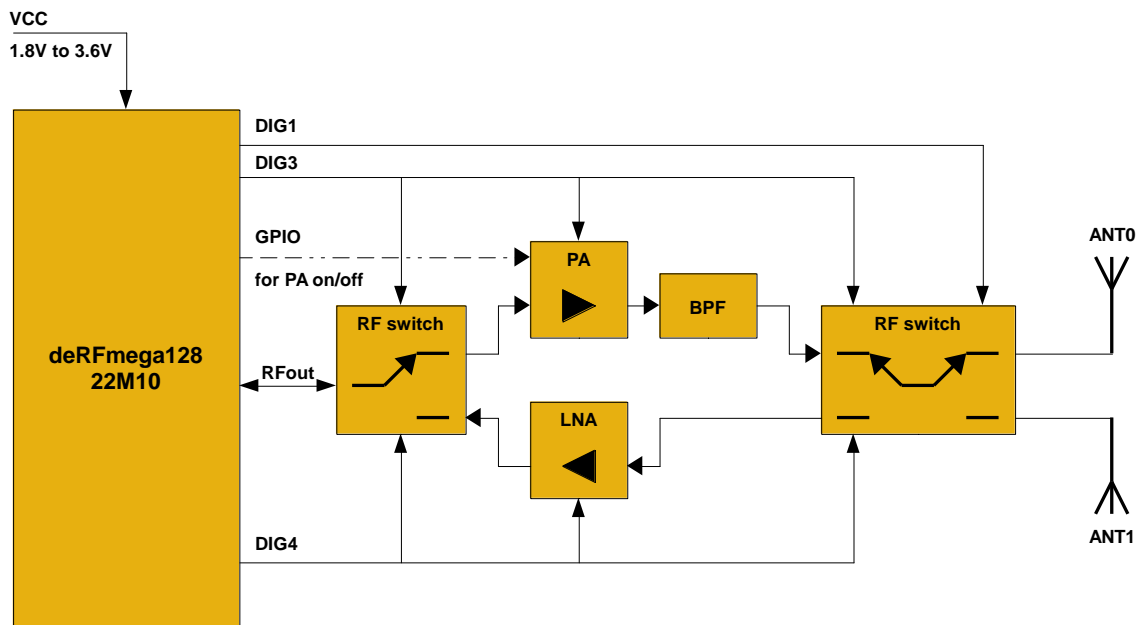

Figure 40: block diagram for external PA/LNA and antenna diversity control
The radio module deRFmega128-22M10 can be connected with an external front-end including power amplifier (PA) for transmission and low noise block (LNA) for receiving. **Figure 40** shows a possible design as block diagram. A custom design can contain a single PA or single LNA or a complete integrated front-end chip. It depends mainly on the application. Furthermore, it is possible to include a RF switch for driving the antenna diversity feature.